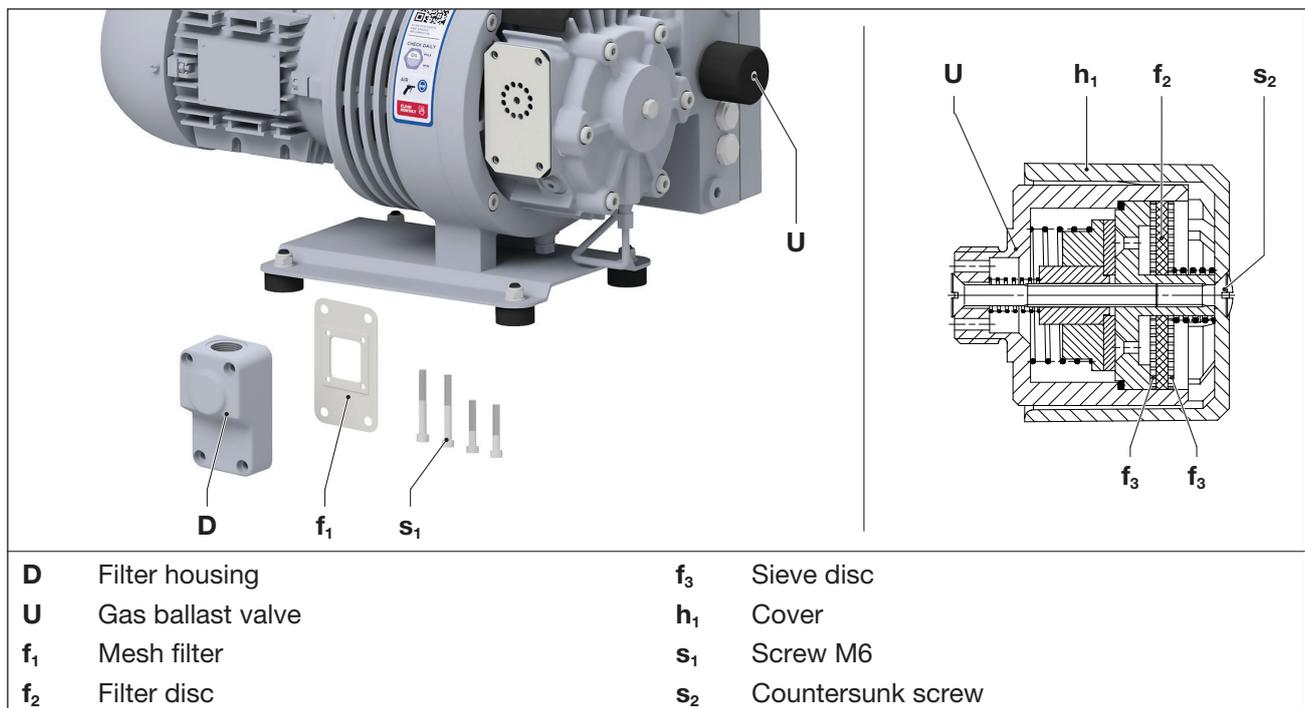

Fig. 6 Mesh filter and gas ballast valve
Depending on the pollution of the inlet medium, the mesh filter (Fig. 6/f₁) in the vacuum connection has to be cleaned more or less by washing or blowing off or it must be replaced.
- Remove the filter housing (Fig. 6/D) from the pump after loosening the screws (Fig. 6/s₁).
- Remove the mesh filter (Fig. 6/f₁) from the filter housing (Fig. 6/D) and clean it.
- Reinsert the mesh filter (Fig. 6/f₁) into the filter housing (Fig. 6/D) and secure the filter housing to the pump with the screws (Fig. 6/s₁). Tightening torque: 10 Nm
The pumps work with a gas ballast valve (Fig. 6/U). The inbuilt filter disc (Fig. 6/f₂) and micro filter discs (Fig. 6/f₃) must be cleaned more or less often depending on how dirty the medium flowing through is.
- Undo the countersunk screw (Fig. 6/s₂) and remove the plastic cover (Fig. 6/h₁).
- Clean the filter disc (Fig. 6/f₂) and the two sieve discs (Fig. 6/f₃) by purging or replace it.
- Place the filter disc (Fig. 6/f₂) between the sieve discs (Fig. 6/f₃) and insert it into the valve.
- Put on the plastic cover (Fig. 6/h₁) and fasten with the countersink screw (Fig. 6/s₂). Tighten the countersunk screw by hand.